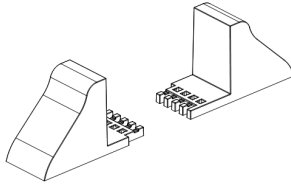

Fig.4-1 Support bases
Step 1: Take out the support bases from the accessories. Their appearances are shown in Fig.4-1.